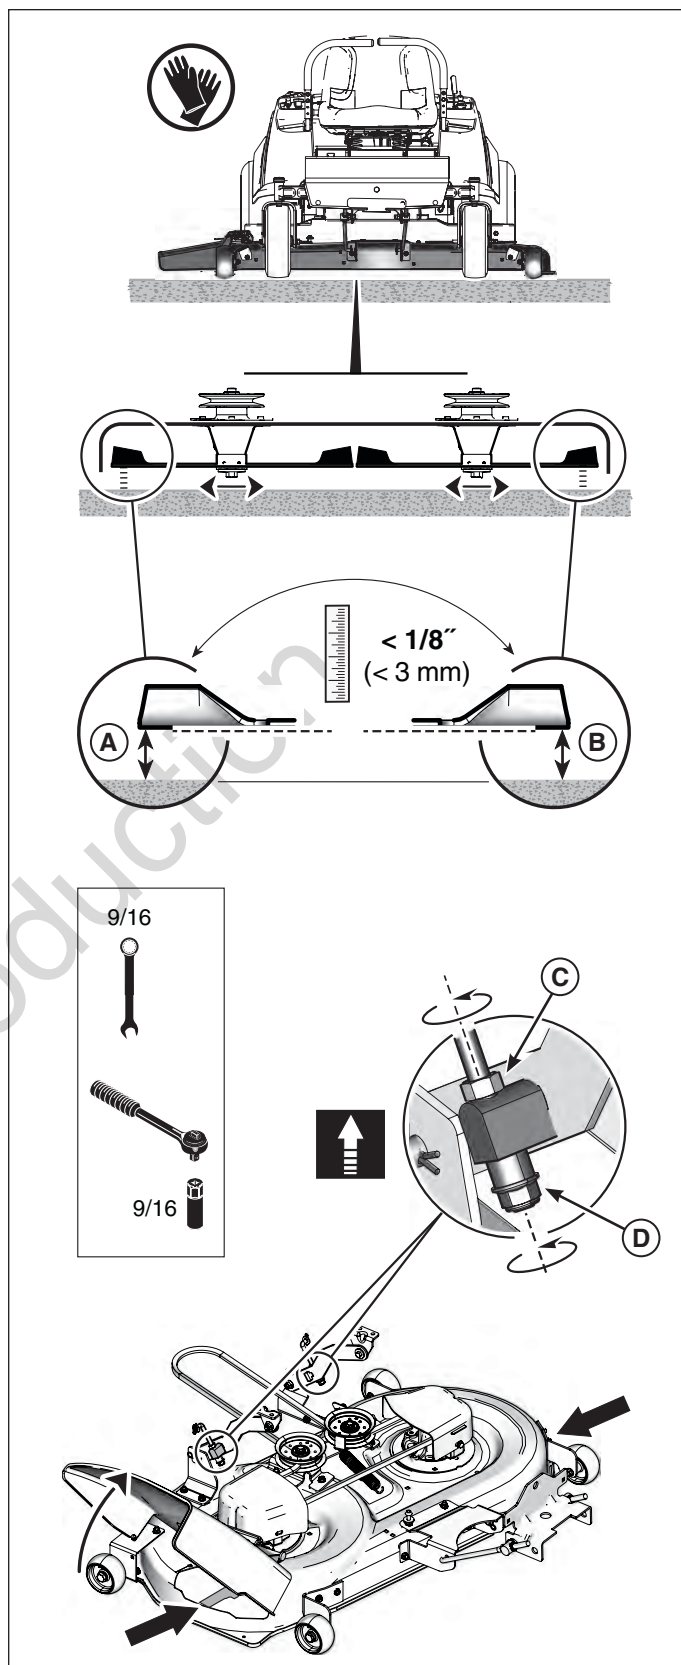

Figure 24. Mower Deck Leveling (Side-to-Side)
1. Turn blades side to side. See Figure 24.
2. Measure the distance between the two outside blade tips (A & B, Figure 24) and the floor. The difference between the two measurements (A & B) should be less than 1/8" (3mm).